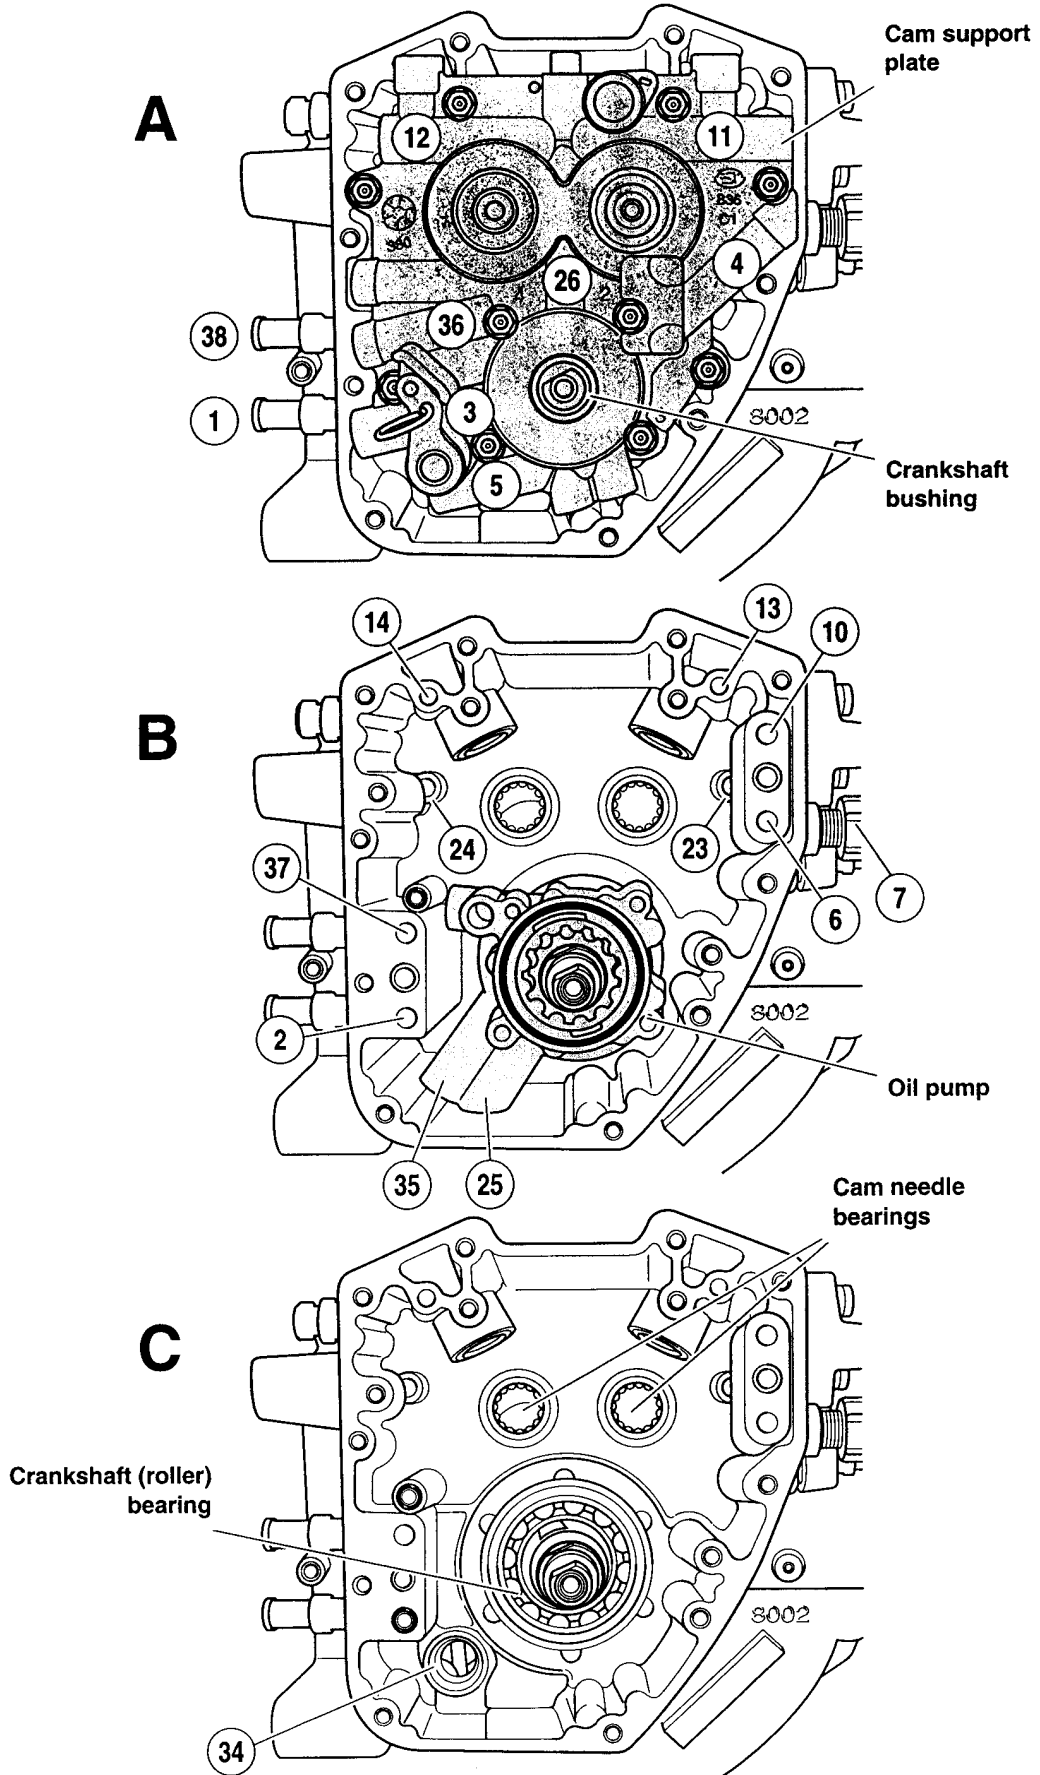

Figure 3-4. Engine Oil Flow - Cam Support Plate/Right Crankcase Half
- Cam support plate oil flow is shown in Figure 3-4.